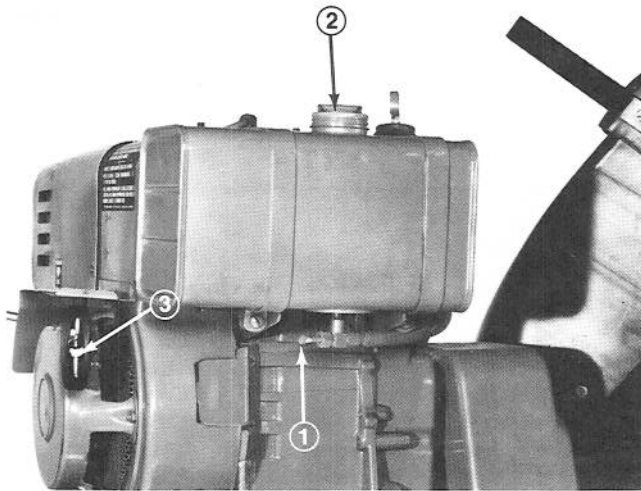

Figure 23
Fuel Shut-Off Valve (Fig. 23) — Close valve to stop fuel flow from fuel tank and open valve to allow fuel to flow to the carburetor.
Recoil Starter (Fig. 23) — Pull recoil starter to start engine.
3. Open fuel shut-off valve (Fig. 23).
6. Grasp recoil starter handle (Fig. 23) and pull it out slowly until positive engagement results; then pull vigorously to start the engine. If gasoline drips out of carburetor while trying to start engine, engine is choked too much. Therefore, move choke fully up and pull recoil starter several times to clear the carburetor and engine.